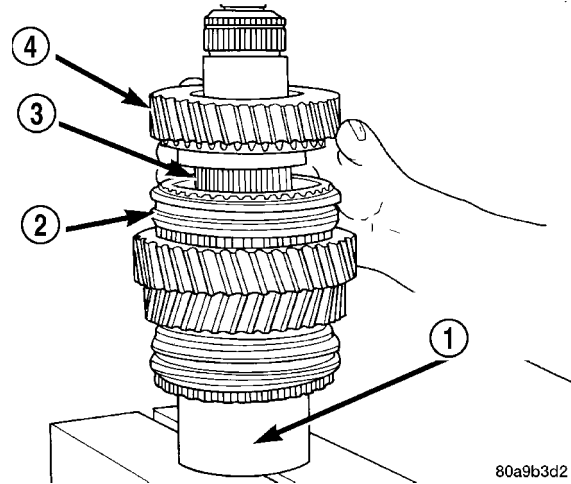

Fig. 70 SECOND GEAR
(22) Install second gear onto shaft and bearing (Fig. 70). Verify second gear is fully seated on synchro components.